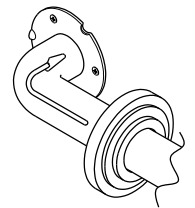

Fig. 7
- Step 6. Snap Cover flange securely onto mounting plate. (Fig.7)